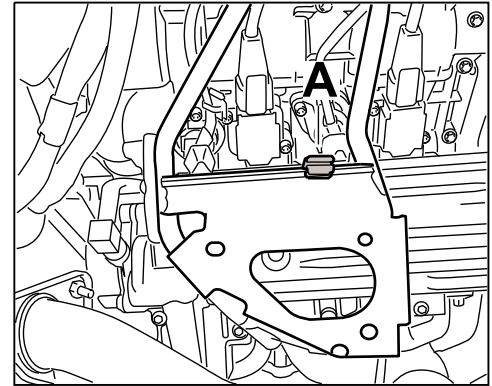

Figure 5
- 1.5 Clip hose clip (7.0 x 9.0) in at the top of both rear muffler holders at the engine side (right side of engine [cylinder bank 4–6], see ⇒ *Figure 5-A*).